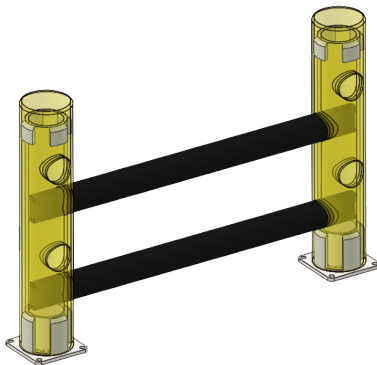

Figure 1. Installation of the first pair of crossbars into the posts.
1. Insert the two black cross-sections against the stop into the posts holes (Fig. 1). The axes of the through circular holes in the crossbars both here and later on must be placed vertically. You can start from any section of the barrier.